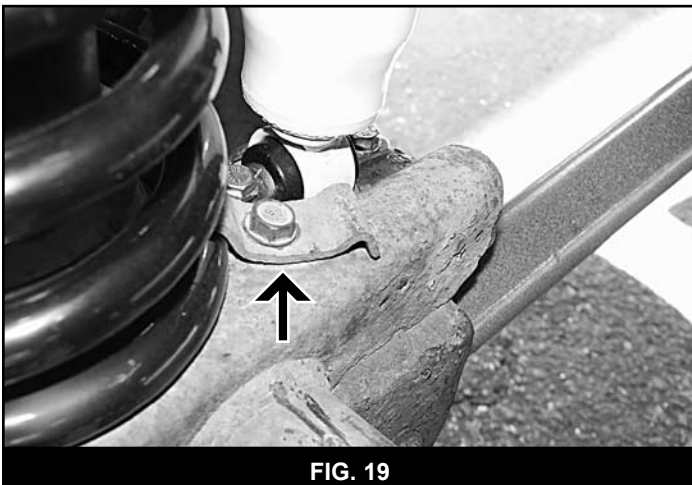

FIG. 19
49. If equipped, remove the lower coil spring retainer clips from the axle (Fig 19). Retain clips and bolts.